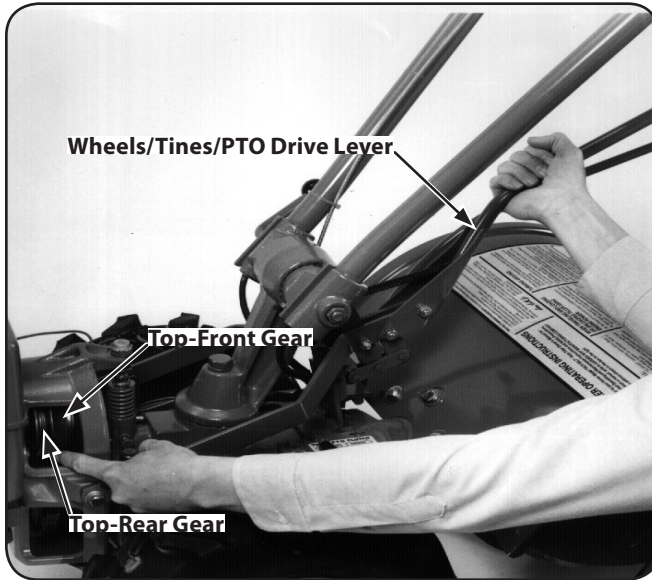

Figure 5-9
- Stand on the left side of the tiller. Use your right hand to hold the Wheels/Tines/PTO Drive Lever up into REVERSE position. Use your left hand to move the belt off the top-front engine pulley groove to top-rear engine pulley groove. See Figure 5-9.